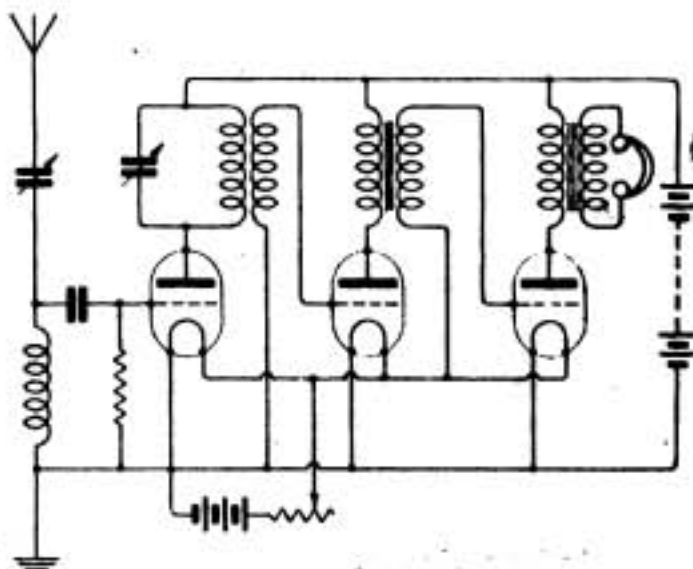

Fig. 5.
(1) The circuit of Fig. 5, page 573, July 29th issue, is a good one, particularly as it uses reaction in a way which is not prohibited by the new restrictions, provided that there is no coupling between the circuits of the second valve and the A.T.L. (2) This may be done if desired but the
(1) Yes. (2) The circuit should be wired up as in diagram (Fig. 5). (3) Certainly. (4) Possibly a little better, but not likely to be much different.
(1) Set is of quite efficient type, but will not be allowed under the new restrictions of the P.M.G. See note at the head of these columns regarding reaction. (2) The best way of adding an extra valve is as in Fig. 5, page 573, July 29th issue. (3) This circuit, although it uses H.F. coupling, does not need inter-valve transformers. The easiest way of getting a big range would be by using honeycomb coils of assorted sizes for the coils on the anode side of the first valve.
In view of the new Post Office restrictions the circuit of Fig. 5, page 513, issue for July 29th, will be about the best that you can do. Care should be taken to see that there is no coupling between the three coils on the anode side of the first valve and the A.T.I.